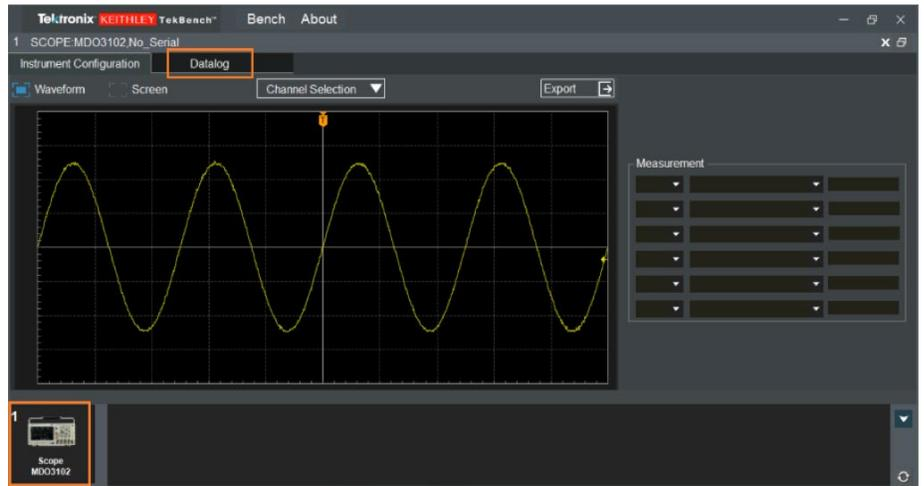

Figure 3: Accessing the measurement data logging interface.
3. Double-click the oscilloscope icon to load it into the software application. Then click the Datalog tab to access the measurement data logging interface (**Figure 3**).